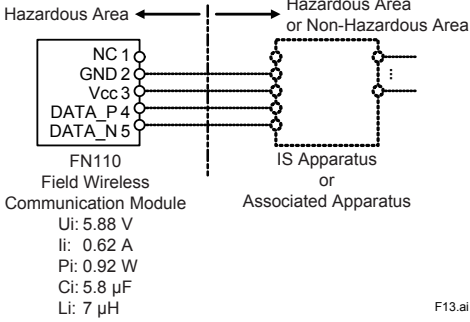

Figure 6.2 Control Drawing, IIE023-A72 for IECEx Certification
- Installation should be in accordance with local installation requirements. Refer to “Figure 6.2 Control Drawing, IIE023-A72 for IECEx Certification and Note 4 of “6.3.2 Installation”.